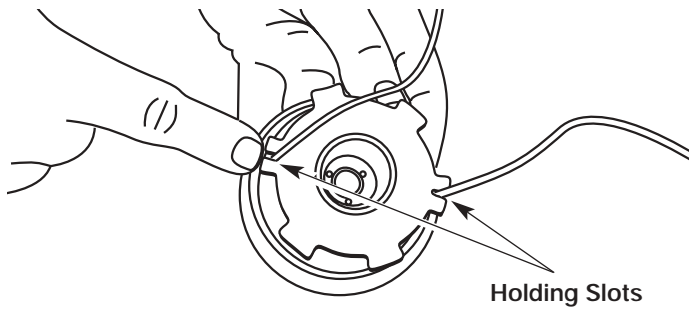

Figure 34
12. Insert the ends of the line into the two holding slots. See Figure 34.